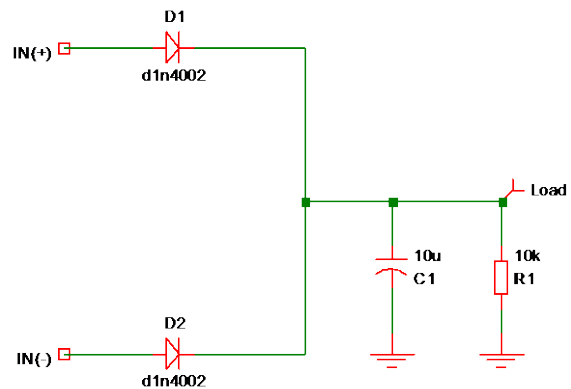

Fig. 3: Full-wave rectifier with 10 uF smoothing capacitor.
- Step 2a: Fig. 3 shows the circuit for testing.